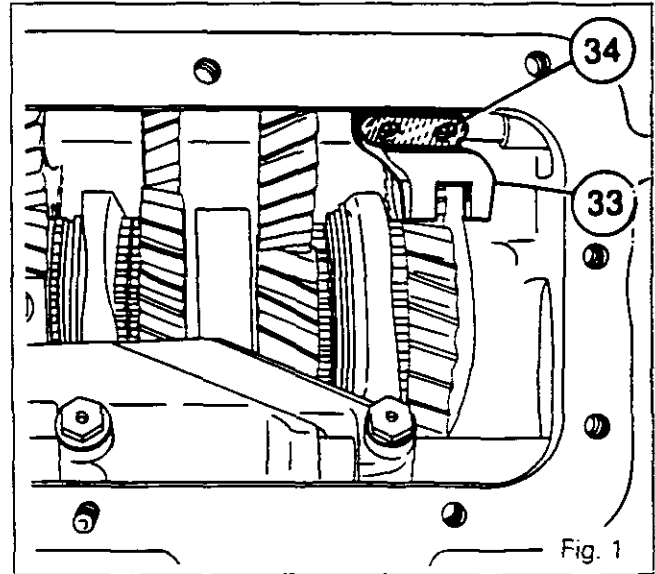

Fig. 1
5. Check that the rings are correctly positioned. Assemble the *release bearing carrier (26)* on the guide cylinder (25). Check that the notches **E** on the rear face of the release bearing carrier are lined up with bolts (20) (Fig. 1). Check that the release bearing carrier slides freely.
5. To facilitate the removal of the input unit, remove the bolts (34). Remove the selector (33) (Fig. 1).